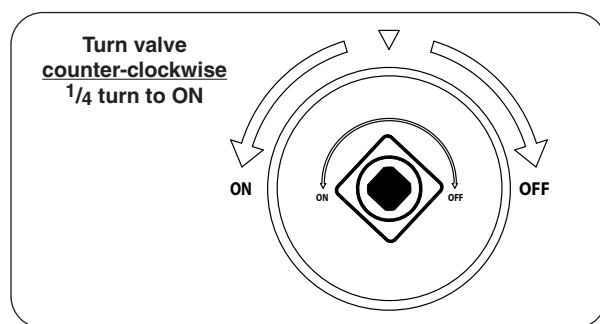

Fig. 35-2 ON/OFF key valve detail
2. Turn the ON/OFF key valve counter-clockwise a $\frac{1}{4}$ turn to the **ON** position (Fig. 35-2).